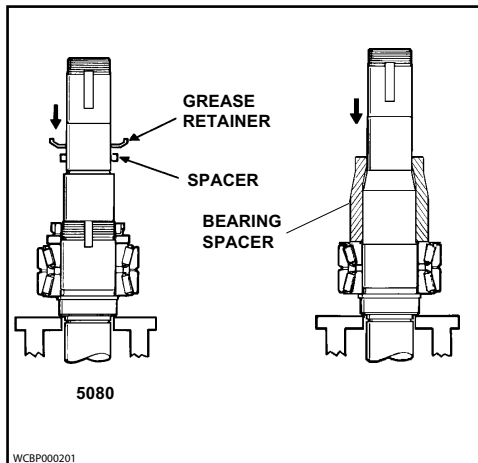

Figure 71 - Install Bearing Spacer
2. Place the shaft upright in an arbor press with gear end up. Install bearing spacer on all model shafts, as shown in Figure 71.